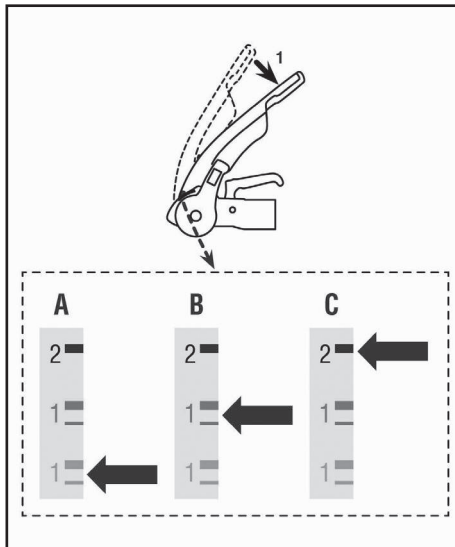

FIG. 5.
2. Push the stabiliser lever (fig.5/item 1) down until resistance is felt (i.e. the friction pads are in contact with the ball but not yet under pressure).
When the stabiliser lever is correctly applied, the arrowhead should link up with the black line marked 2 (Fig 5/C).